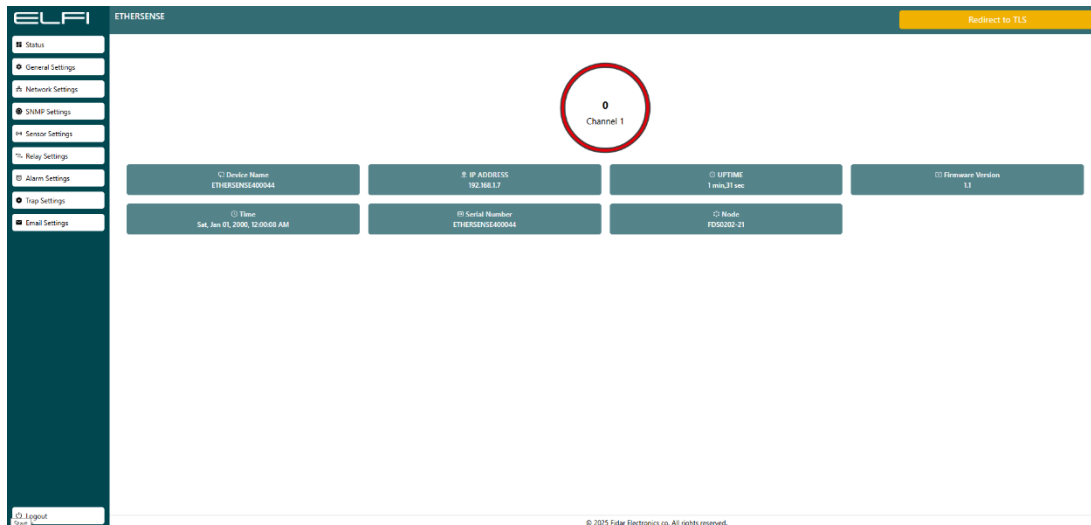

Figure 6: Sensor “Status” Menu
The Status page is specifically designed to provide real-time monitoring of the Dry Contact Sensor's performance. This digital sensor operates in only two states: Active (1) and Inactive (0). This page can be used to observe critical events within the system (see Figure 6).